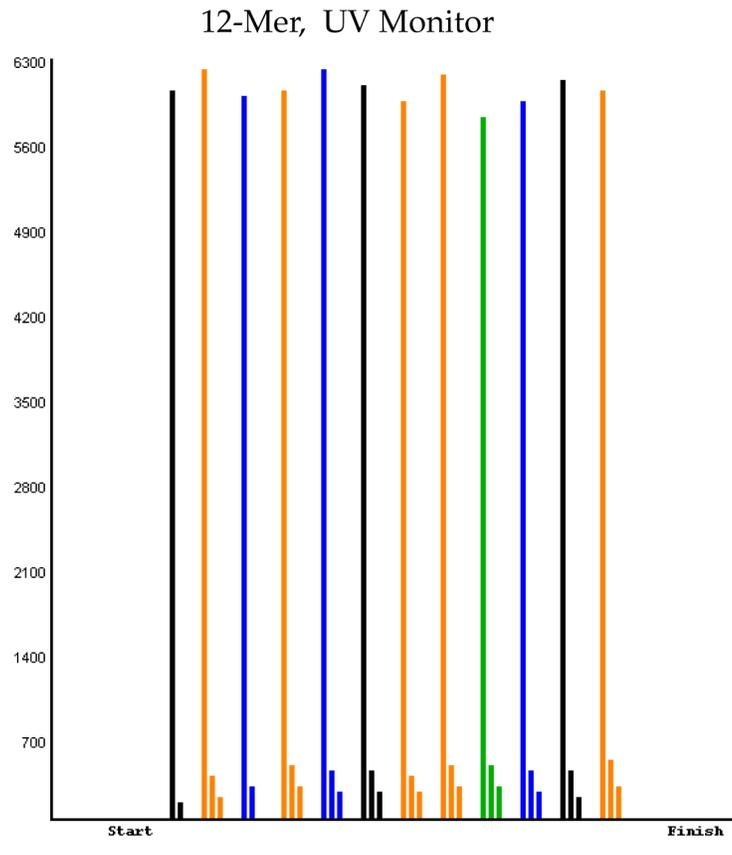

Figure 3-3 UV Monitor trace for a 12-mer peptide.
3.	Check the results and verify that the second deprotection peak is in the 50 to 150 range, and that the ratio of the second peak to the first peak is <3.5%. See the example, Figure 3-3 on page 3-7 .
4.	If the ratio exceeds 3.5%: <ul style="list-style-type: none">a. Install fresh bottles of NMP and Piperidine.b. Prime both lines.c. Increase the value of Function 134 in the H module to 5% (50) or to a value larger than observed in the previous Fmoc-Resin test.d. Repeat the Fmoc-Resin test.
Figures 3-3 and 3-4 show two UV traces for a 12-mer peptide illustrating the monitor display and the corresponding strip chart recording, respectively. Note that there is a faithful correspondence between the peak heights of the monitor display and the strip chart recording.